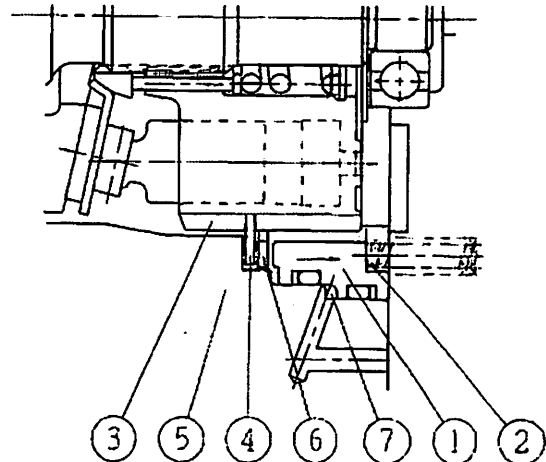

Fig.8
When A or B ports are pressurized, the oil is lead to chamber ⑦ shown in Fig.8. Then the brake piston ① is moved to the direction (shown as arrow:Fig.8) against the force of spring ②. As a result, the disk plate ④ is released from the steel plate ⑥ and the body 2 ⑤, and the cylinder barrel ③ can be rotated. (Fig.8)